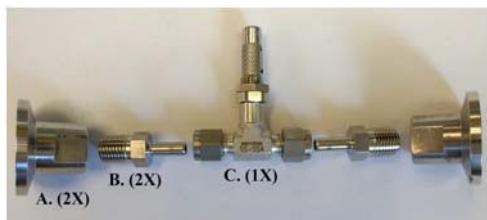

Figure 49 Metering Valve Assembly
- 1 Assemble a fine metering valve, as described in Figure 49 and follow the assembly notes.